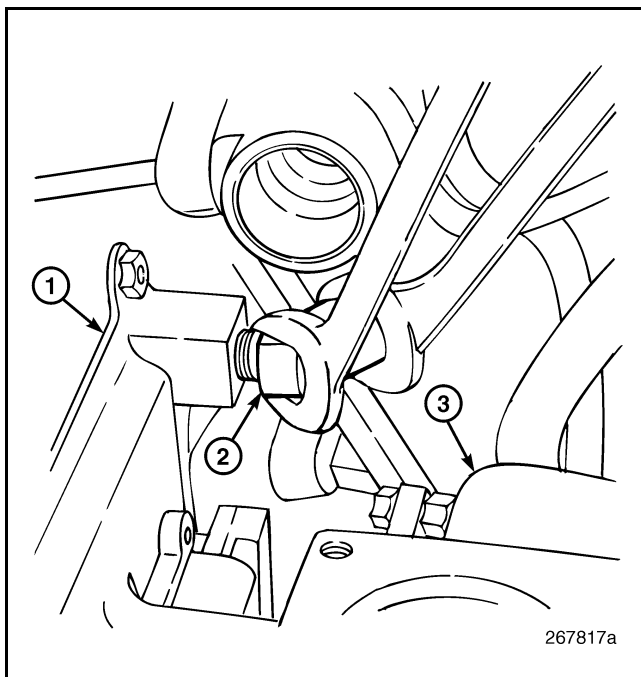

Figure 133 — Cooling Plate Fuel Lines
- Disconnect the fuel lines at the inlet and outlet ports at the top of the cooling plate (Figure 133) and position the lines out-of-way.